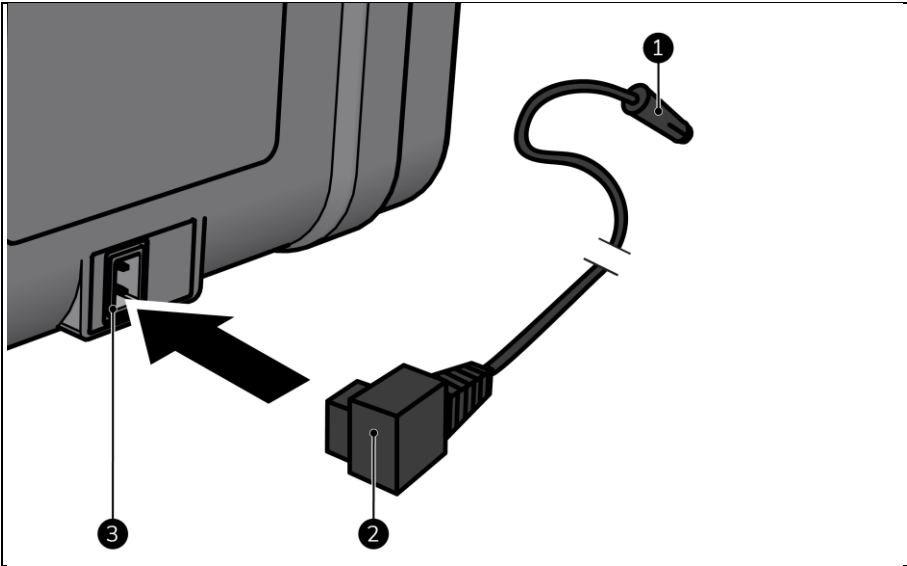

Figure 8
3. Place the power connector (Figure 8, pos. 2) into the power supply of the device (Figure 8, pos. 3).
4. Place the auxiliary power plug (Figure 8, pos. 1) into an easily accessible 12V or 24V auxiliary power supply in a vehicle or vessel.